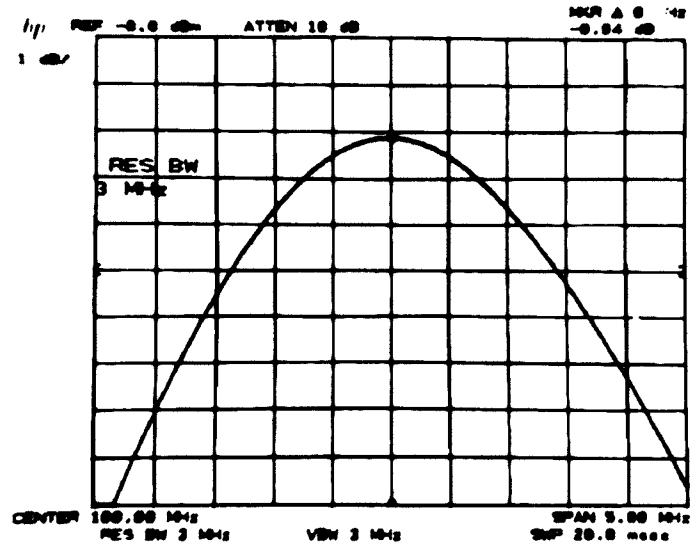

Figure 2-7. Bandwidth Switching Uncertainty Measurement
5. Key in settings according to Table 2-6. Press MARKER **PEAK SEARCH** at each setting, then read the amplitude deviation from the MARKER Δ readout at the upper right of the display. (See Figure 2-7.) The allowable deviation for each resolution bandwidth setting is shown in the table.